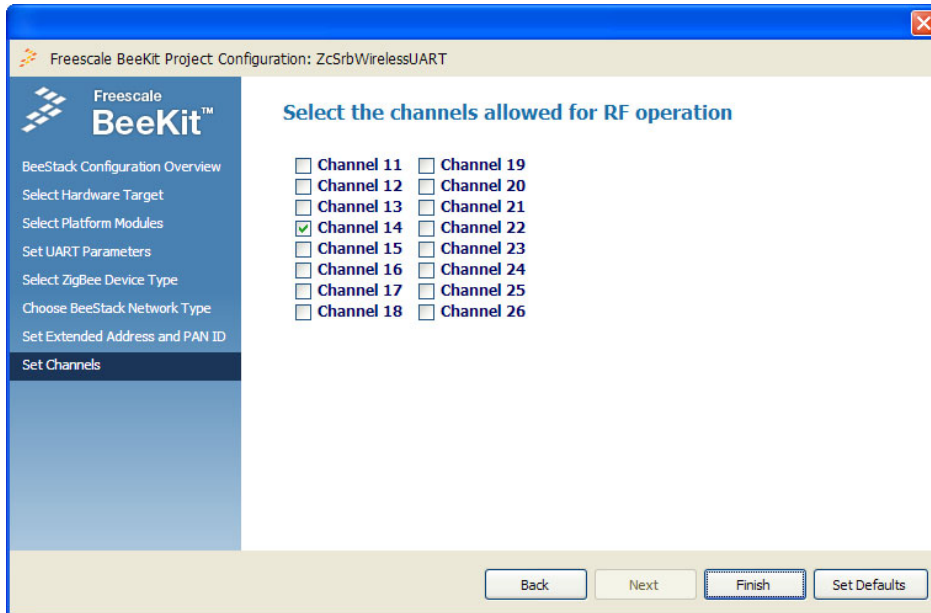

Figure 5-10. Channels Page
9. Click the Next button and the Set Channels window appears as shown in Figure 5-10. Select 'Channel 14'.
7. Click the Next button and select the same channel as the Coordinator as shown in Figure 5-10.